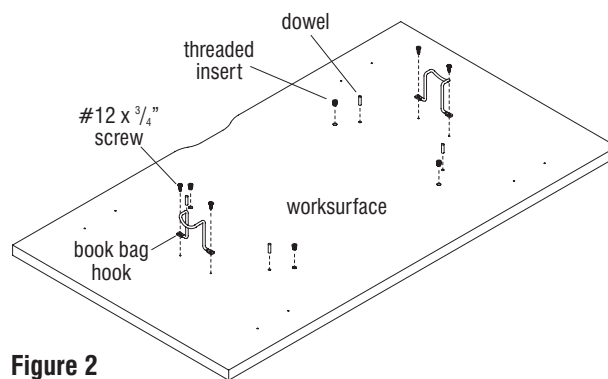

Figure 2
1. Carefully place the worksurface upside down on a soft, protective surface (Figure 2).
2. Locate the four dowel hole locations at the underside of the worksurface. One at a time, position a dowel over each hole and gently tap the dowel in until it bottoms-out in the hole, leaving 1/2" of each dowel protruding. **DO NOT** force the dowel to go deeper into the worksurface or damage will occur (Figure 2 & Detail C).
3. If the table being assembled has a wood butcher block worksurface the threaded inserts must be installed. Locate the four threaded insert hole locations at the underside of the worksurface near the dowel locations. One at a time, secure a threaded insert to the worksurface using a 6 mm allen key (Figure 2 & Detail C).
5. Position the book bag hook as illustrated over the pre-drilled mounting hole locations on the underside of the worksurface so the loop faces to the table edge, then secure using two #12 x 3/4" Phillips reverse serrated screws. Take care to not over-tighten the screws. Repeat this process to secure the second hook to the worksurface (Figure 2 & Detail D).